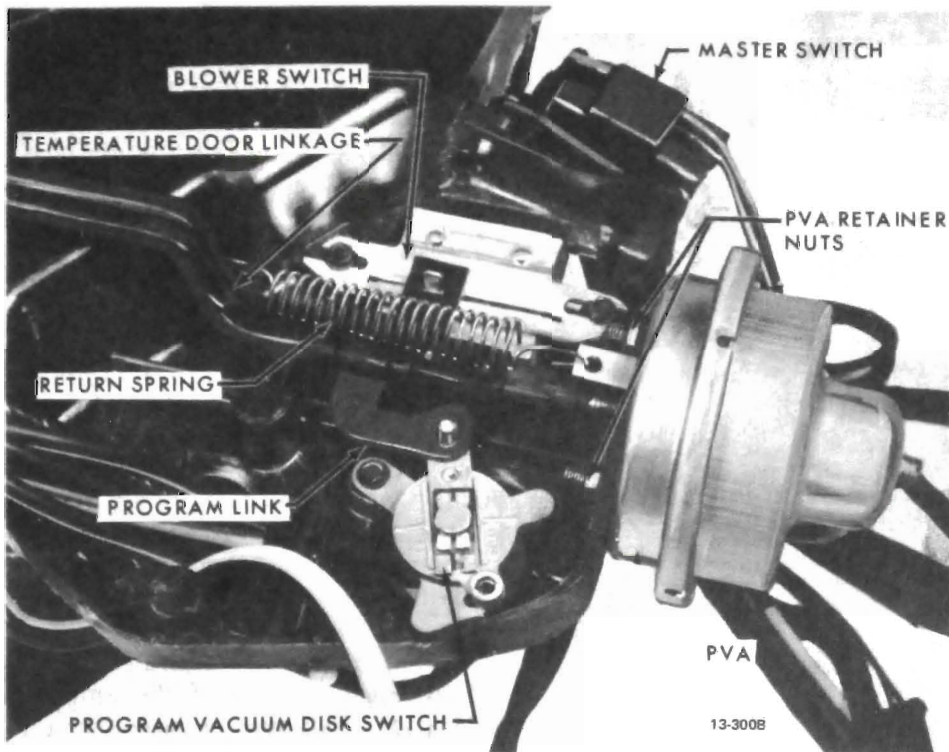
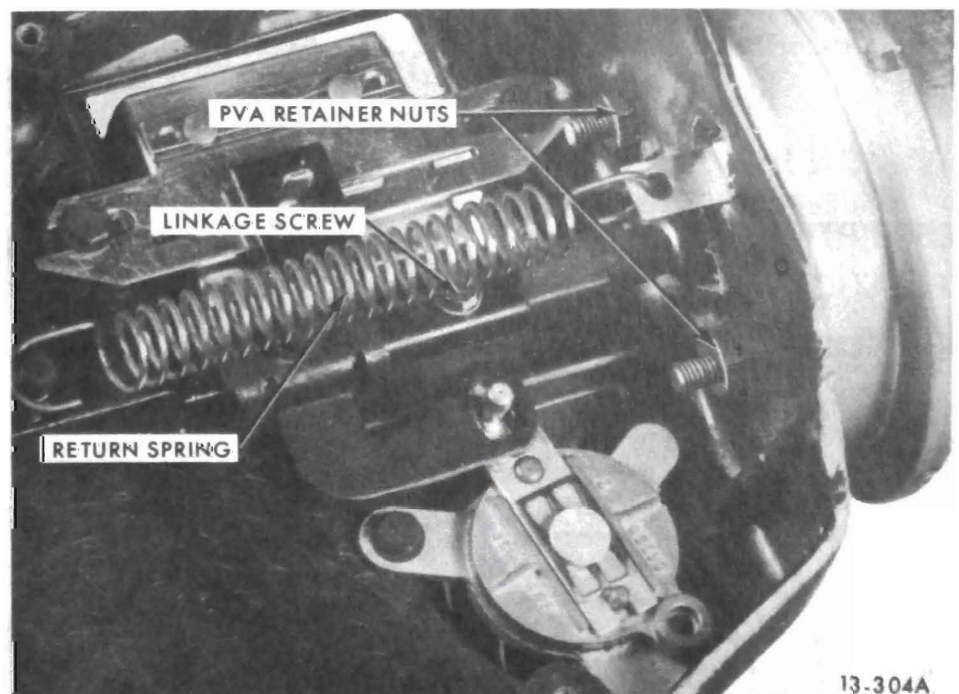

Figure 13-204 45-46-48000 Series
Figure 13-205 49000 Series PVA
3. Disconnect brown vacuum hose from regulated vacuum port of TVR and plug end of hose. Disconnect source (black) hose from power side of PVA. 45-46-48000 Series see Figure 13-204. 49000 Series see Figure 13-205.